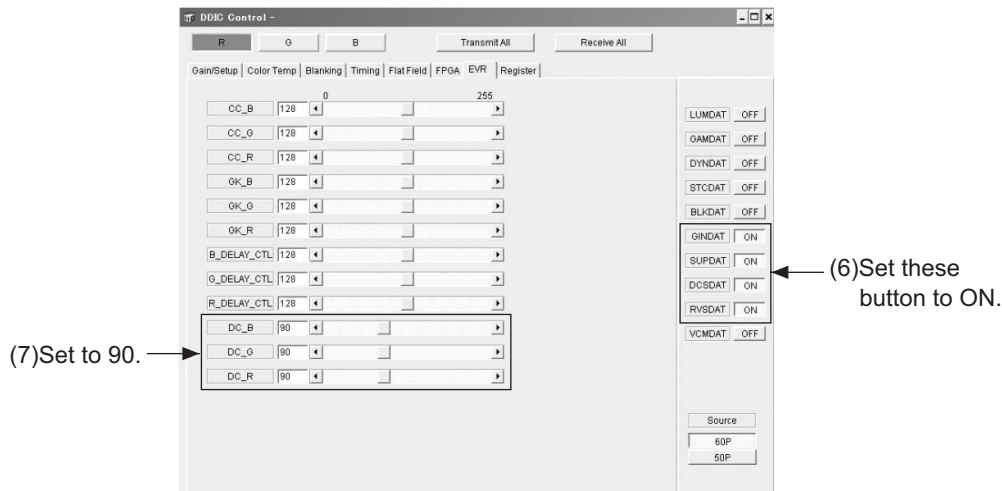

Fig.2
- Press [R] at the top left of the screen. Set the following buttons located in the furthest right of the screen as follows: Set [GINDAT],[SUPDAT],[DCSDAT] to ON, and the rest to OFF. Refer to Fig.2.
- In the [DDIC] [Control EVR tag] screen, set the value for DC_R, DC_G and DC_B to 90, respectively. Refer to Fig.2.